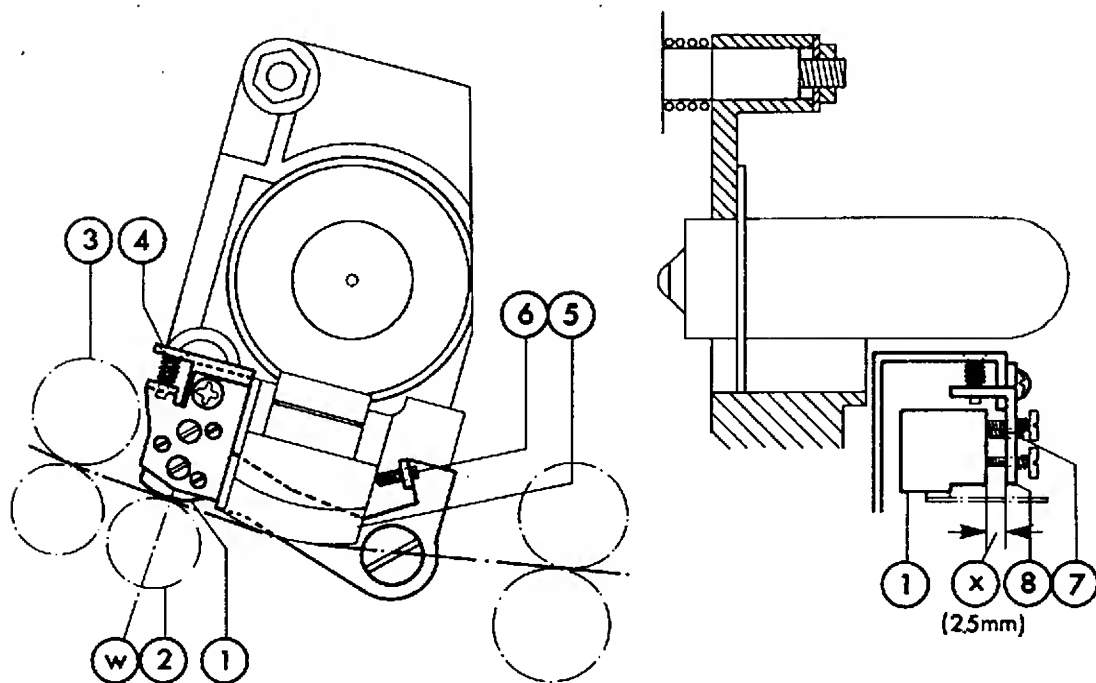

Fig. 28
- * Adjust the position of Fig. 28-1 by turning Fig. 28-4 so that the center of Fig. 28-1 may coincide with the center line of Fig. 28-2 ((w) in Fig. 28).
- * Adjust the distance between Fig. 28-1 and 8 ((x) in Fig. 28) to be about 2.5mm by turning Fig. 28-7x3, and load a film.